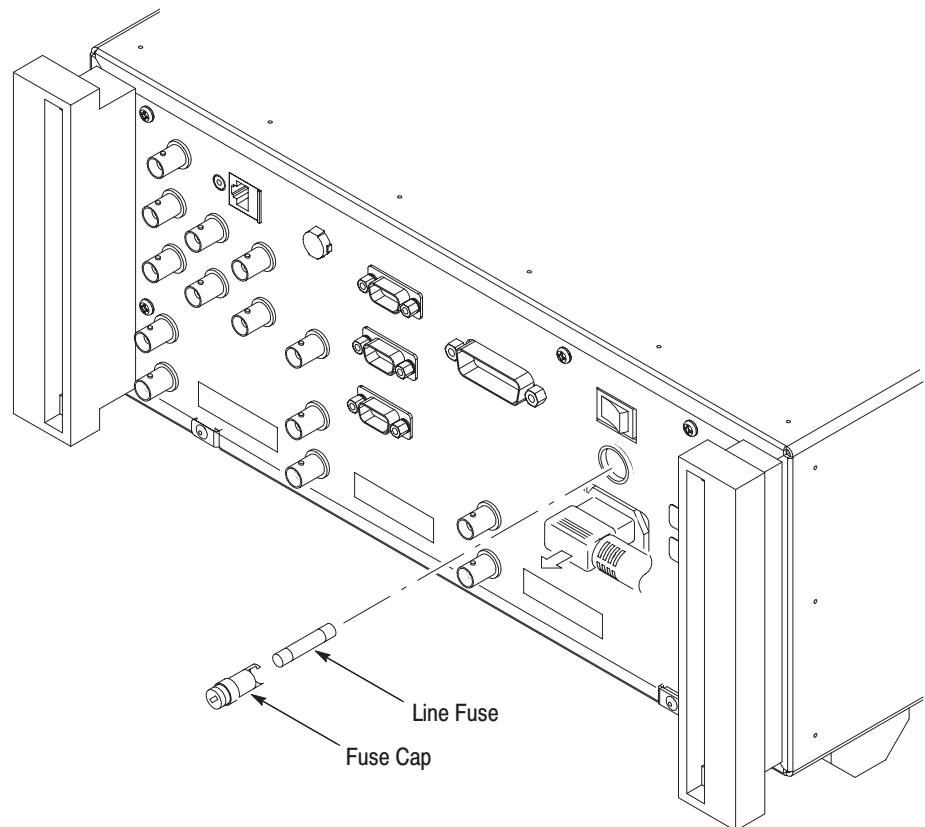

Figure 6-7: Line fuse and line cord removal
2. Find the fuse cap on the rear panel. See Figure 6-7. Remove the fuse cap by turning it counterclockwise using a flat-blade screwdriver, and remove the line fuse.
3. Find the line cord on the rear cover. See Figure 6-7. Pull the line cord to complete the removal. Reverse the procedure to install the line cord.